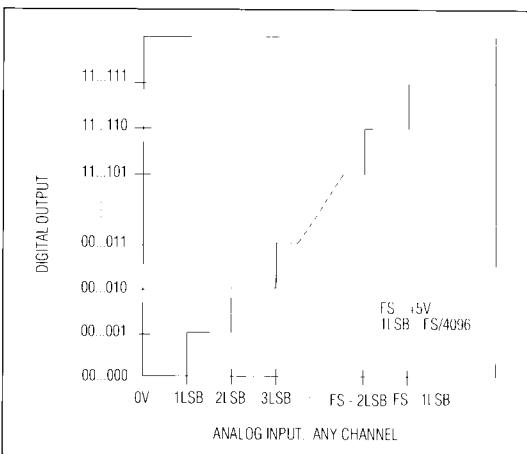

Figure 12. Ideal Input/Output Transfer Characteristic for Unipolar Circuit of Figure 11
input/output transfer characteristic and transition points for this input signal range are demonstrated in Figure 12 and Table 1. The MX7582 transfer characteristic transition points occur on integer multiples of 1LSB. The output code is natural binary, with: 1LSB = (Full Scale (FS)) /4096 = (5/4096)V = 1.22mV.